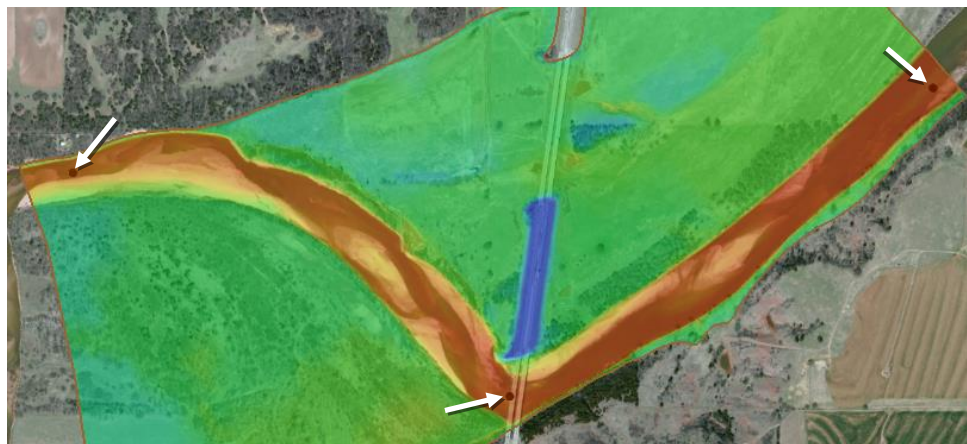

Figure 3 Monitor points at upstream, midway between, and downstream
5. Using the **Create Feature Point** tool, create three monitor points as shown Figure 3.